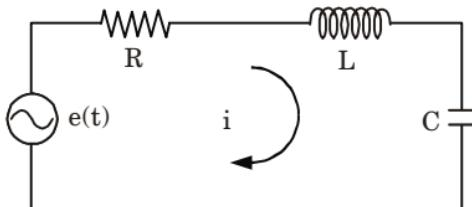

Fig. 1.3.2. Electrical circuit for force-voltage analogy.
1. The analogy of eq. (1.3.2) with the voltage equation of an electrical circuit can be established by considering electrical circuit shown in Fig. 1.3.2.